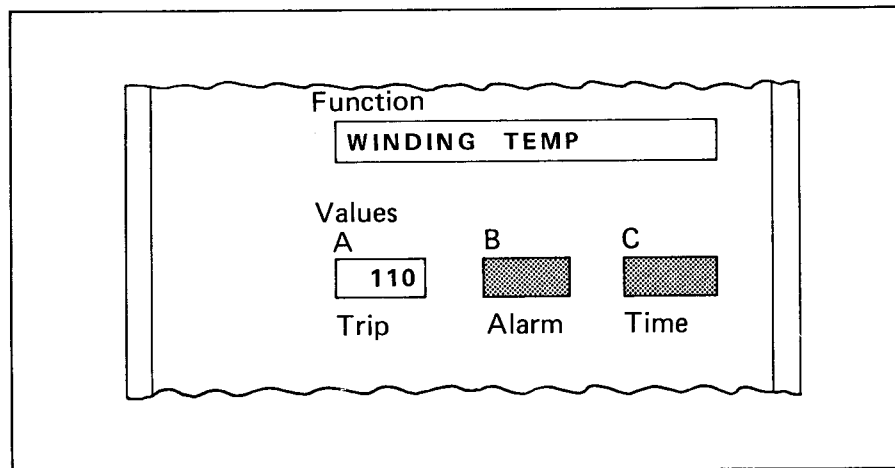

Figure 7.2 – Reviewing Message
Step 1 – Depress the SET POINTS pushbutton. At this time WINDING TEMP is displayed in the FUNCTION window. (See Figure 7.2.) Also, all values related to this function are displayed.